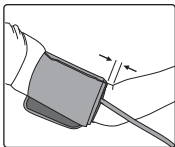

Fig. 3
5. The bottom edge of the cuff should be positioned approximately one inch above the elbow joint, Fig 3.